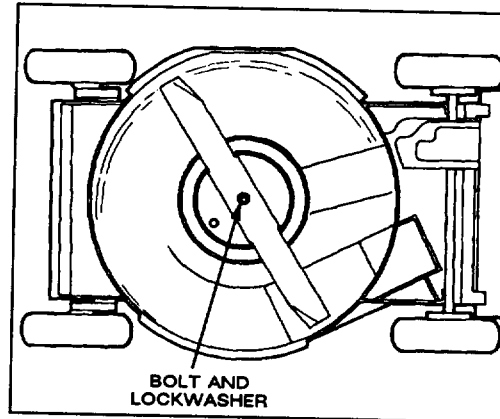

Figure 20
3. Tip mower on its right side (Fig. 20). Avoid rotating blade because starting problems may result.
5. REMOVING BLADE—Grasp end of blade using a rag or thickly padded glove. Remove blade bolt, lockwasher, and blade (Fig. 20).